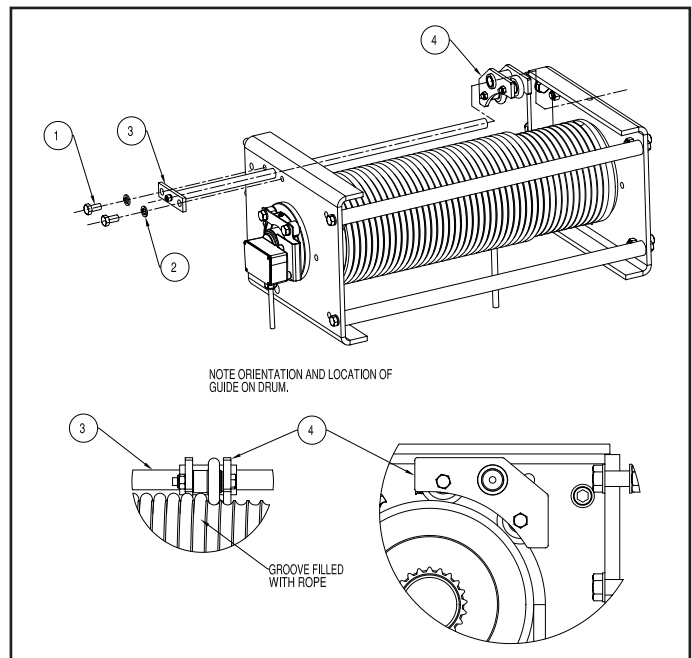

Figure 5-3b. Rope Guide Assembly ("D" Frame)
- (4) Remove the split plastic shroud (Item 2) from the drum. When reassembling the rope guide, be sure the plastic shroud (Item 2) fits snugly in the rope guide body groove.
- (5) Thoroughly clean and inspect all components.
- (6) Follow steps in reverse to reassemble. Be sure to regrease the rope guide with **MPG** (Paragraph 4-7), after assembling.
- c) **Disassembly for "D" Frame.** Refer to Fig. 5-3b. For further assistance in locating components, refer to the parts list in Section IX.
- (1) Remove hex head cap screws and lock washers (Items 1 and 2). Pull back on drum frame rod assembly (Item 3) until the free end pulls free of the gearcase end drum bracket.
- (2) Slide the rope guide assembly (Item 4) off the end of the drum frame rod and remove from drum groove area. Note the required orientation of the rope guide assembly for re-installation.
- (3) Thoroughly clean and inspect all components.
- (4) Follow steps in reverse to re-install, paying attention to orientation and making sure to seat the assembly into the correct drum groove. Be sure to regrease the rope guide with MPG (Paragraph 4-7), after assembling.